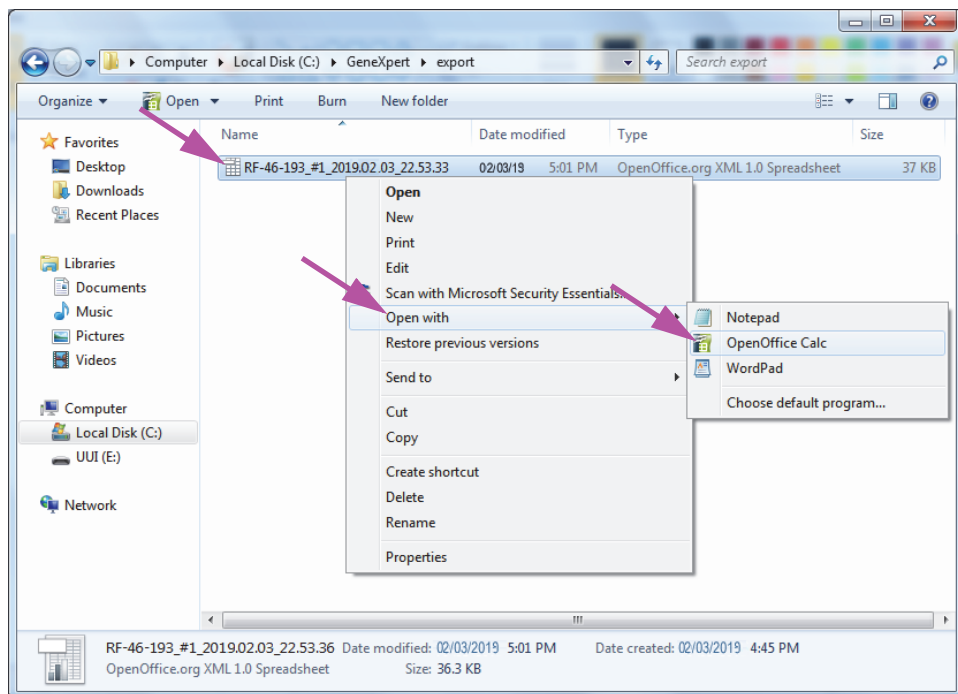

Figure 5-54. Opening a .csv File to Configure AOO (Example)
1. In the GeneXpert folder on your system, navigate to the **Export** folder. Right click on the .csv file you want to open. When the drop-down menu appears, click **Open with** and select **OpenOffice Calc**. See Figure 5-54.